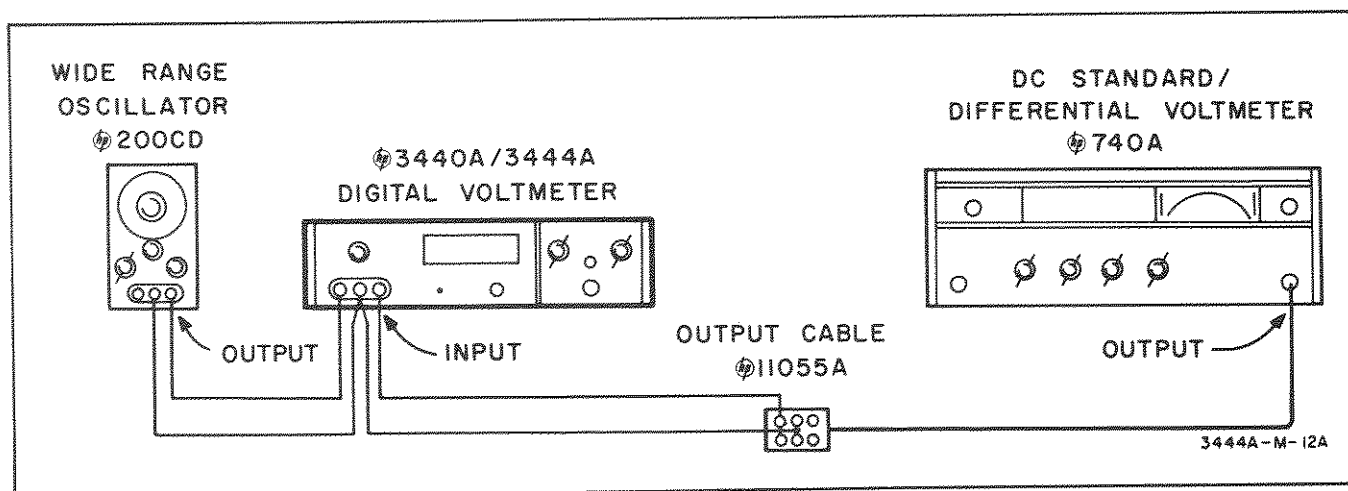

Figure 5-5. Millivolt 60 cps Common Mode Rejection Test Setup
- h. Connect the test setup shown in Figure 5-5 for the 100 and 1000 mv ranges on Common mode ac rejection.